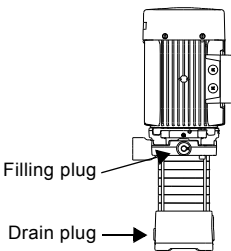

Fig. 4 Filling and drain plugs
3. Remove the filling plug. See fig. 4.
Remove the filling and drain plugs. See fig. 4.